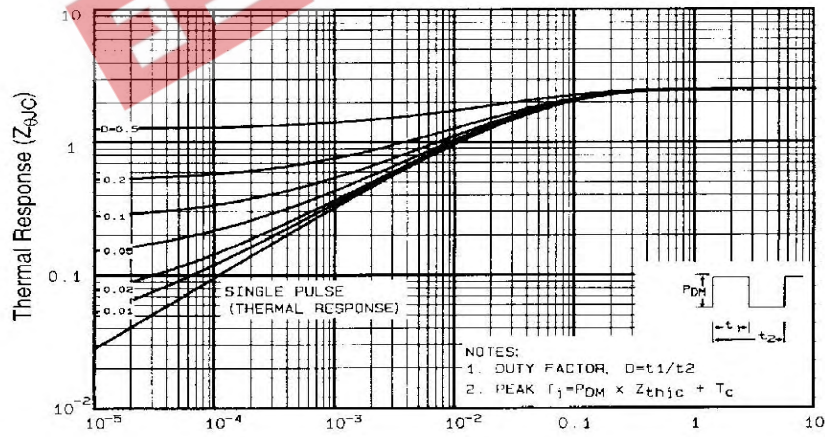

Fig 11. Maximum Effective Transient Thermal Impedance, Junction-to-Case
① Repetitive rating; pulse width limited by max. junction temperature. (See fig. 11)
② $I_{SD} \leq 5.2A, di/dt \leq 95A/\mu\text{s}, V_{DD} \leq V_{(BR)DSS}, T_J \leq 150^\circ\text{C}$